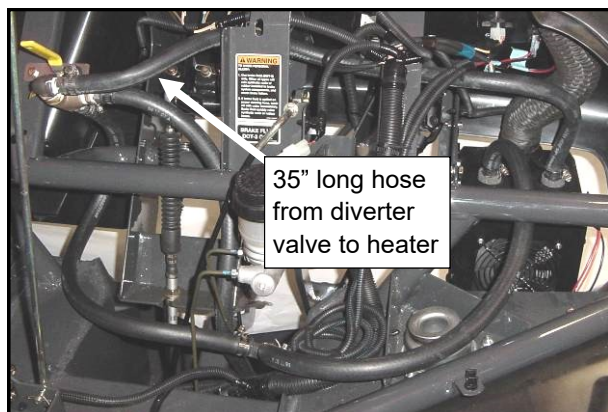

Fig. 3.10 (view from front of vehicle)
3.10 The last 35" long piece of hose connects the top port of the diverter valve to the heater. See fig. 3.10 and the flow chart on the next page. Use the supplied hose clamps.